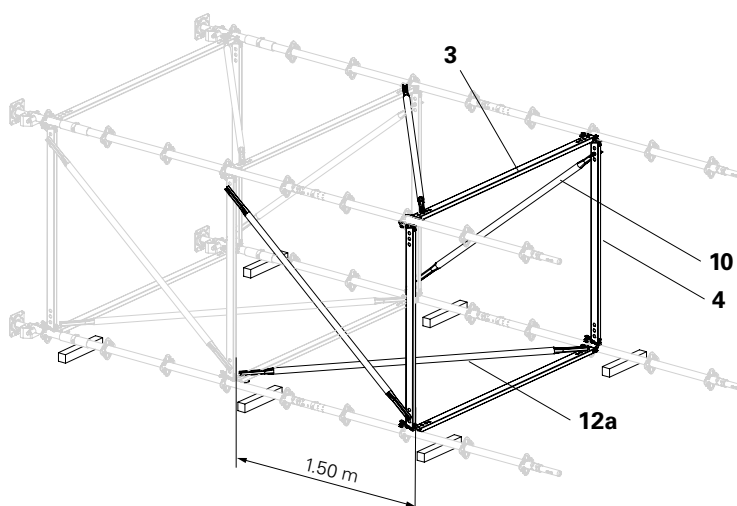

Fig. B1.05
- Fit the remaining ledger braces from the outside. (Fig. B1.05)